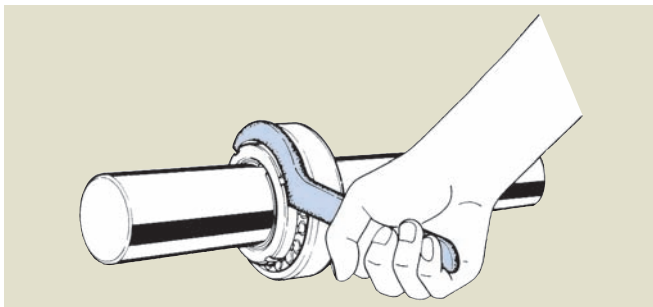
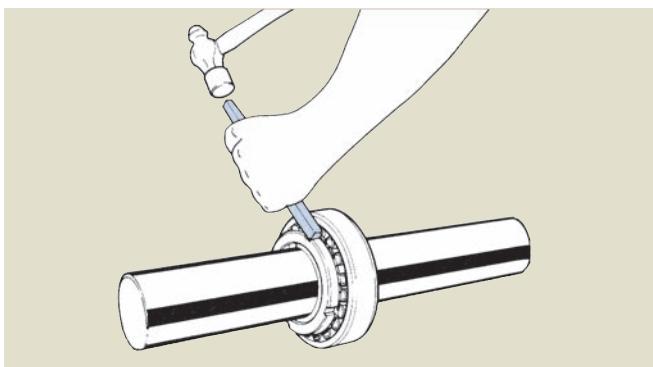

Fig. 5
Fig. 6
(2) Using the hook spanner shown in **Fig. 5** makes it convenient to fasten the nut. If a hook spanner is not available, fasten the nut by aligning the end of a suitably sized rod with the notch in the nut and tapping with a hammer, as shown in **Fig. 6**. Hitting it wildly may cause deformation of the notch in the nut or burrs to be formed, damaging the bearing.